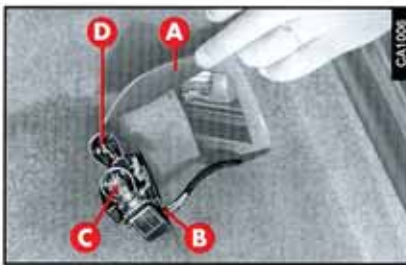

fig. 20
- Lift the panel (**A-fig. 20**) in the floor of the luggage compartment.
- Remove the bulb-holder assembly freeing it from the clips (**B-fig. 20**) and withdrawing it axially in relation to its seating.
- Replace the round bayonet-type side and brake light bulb (**C-fig. 20**) or direction indicator bulb (**D-fig. 20**).